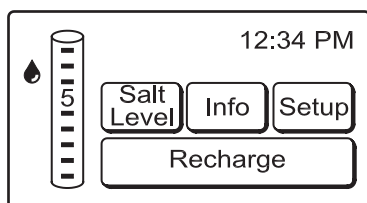

FIG. 50
1. Press the INFO button at the center of the softener status screen (See Figure 50).